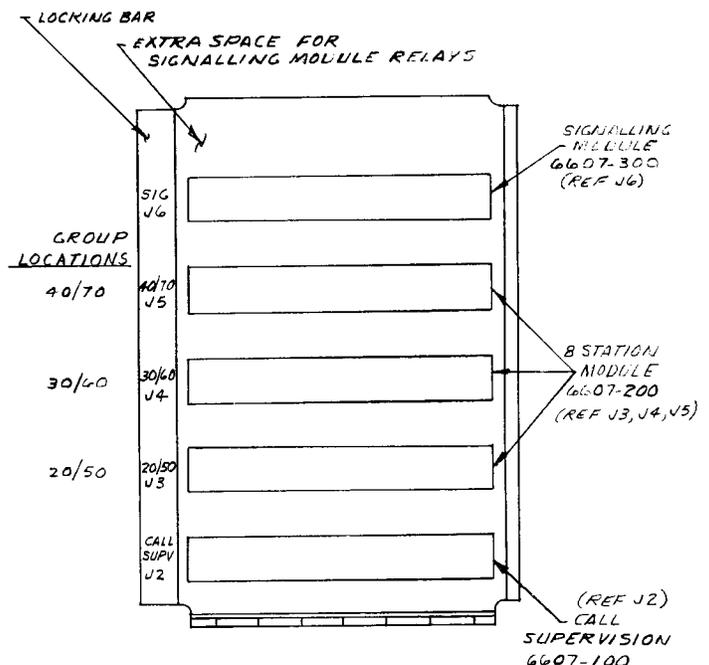

FIGURE 6
Referring to Figure 6 of this document, position the card cage with the locking bar on the left. Note the extra space above the J6 connector. All cards will insert with the components above their printed circuit board. The Call Supervision Module inserts in the bottom card position designated J2 on the card frame. Card positions J3, J4, and J5 are for the Eight Station Module cards. While these cards may be interchanged with each other, the card positions themselves correspond to specific station groups. The J3 card position corresponds to the 20's group in a one to three link system; the J4 position corresponds to the 30's group; and the J5 position corresponds to the 40's group. In a four to six link system, the J3, J4 and J5 positions in the second card cage correspond to the 50's, 60's, and 70's group respectively. The top card position is for the Signaling Module. The extra space above the J6 connector is for the relays on this module. The Call Supervision Module installed in the first card cage controls from one to six links. Therefore, in a four to six link intercom system the Call Supervision Module is not installed in the second card cage and the J2 position in the second card cage must remain unused. One Signaling Module is required for each card cage. If no telephone stations are used in a specific group, then the Eight Station Module for that group should be removed. This way the caller attempting to dial into that group will receive a busy signal and no connection will be made.
- a. If trouble is encountered during SB6607A intercom installation, verify that all connections or wiring options have been made properly. The Intercom Unit Assembly contains no electrical components that are normally considered subject to failure. However possible wire breakage or poor wire terminations may exist. These may be traced using normal continuity checking procedures with a multi-meter (Simpson 263 or equivalent) while referring to figures 6 and 7.
- b. Field repairs involving replacement of electrical components on plug-in modules are not recommended. Field repair should occur at the replacement module level only. All Intercom modules are warranted individually and may be returned for repair separately. Refer to the individual unit's circuit description for warranty details. The basic SB6607A Intercom is warranted for one year from the date of purchase. Return to SAN/BAR Corporation, 17422 Pullman Street, Santa Ana, California 92711. For technical assistance call (714) 546-6500.